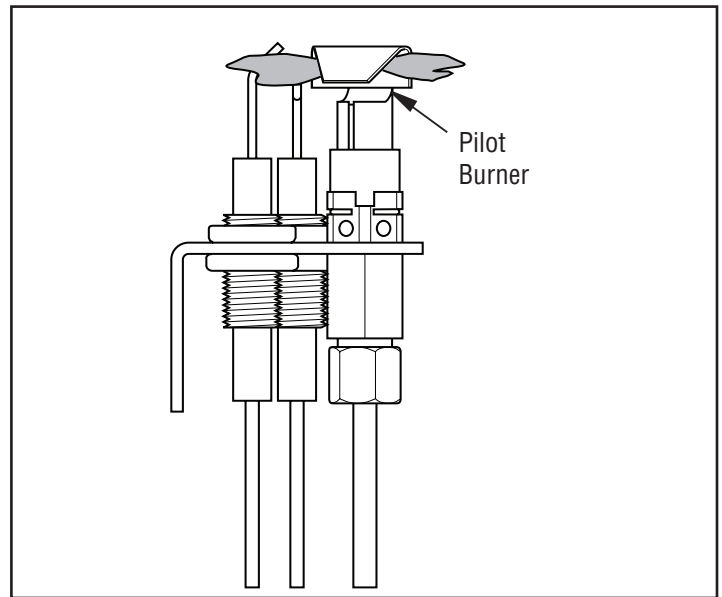

Figure 48 - Correct Pilot Flame Pattern
- Turn the adjustment screw marked PILOT clockwise to decrease or counterclockwise to increase the flame to proper size (see Figure 48). Do not remove the adjustment screw.